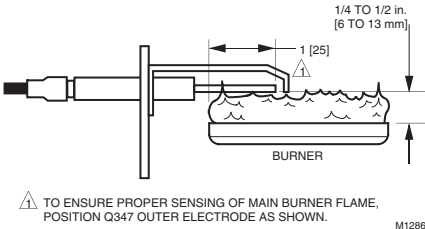

Fig. 2. Mount Q347 with respect to main burner flame.
- 6. Ensure that main burner flame is not blocked by the outer electrode. Mount Q347 as shown in Fig. 2.
- 7. Mount Q347B,C so the ignition flame remains properly positioned with respect to the main burner flame. Refer to Fig. 2.